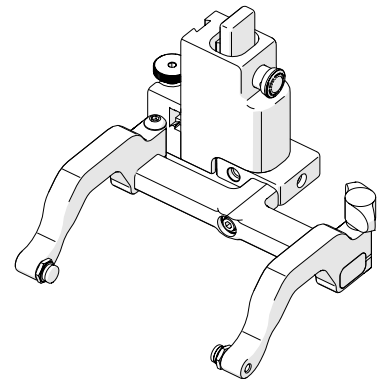

Fig. 49 - Alternate yoke size mounted
4. Place the probe holder arms on the yoke and tighten the arm clamp screw and probe holder adjustment screw (Fig. 49).